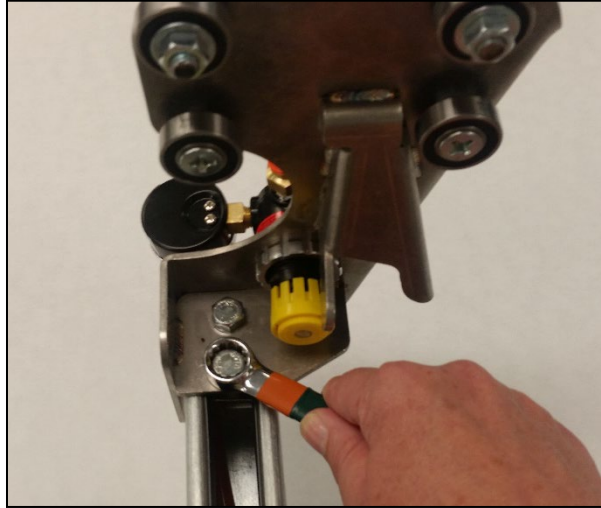

Fig 59
5. If you are rebuilding the clamp cylinder at the bottom of the arm or all the clamp cylinders, remove the bottom bracket first. Loosen the 2 screws as shown. (Fig 59)